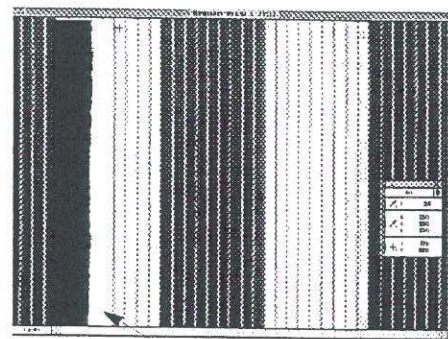

Fig. 4
- 14 • Select **threshold** and make a threshold on the enlarged area (fig. 4).
- 15 • Choose what appears to be the worst area of irregularities in fig. 4.